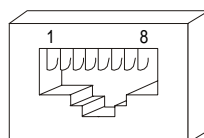

Figure 3. RJ-45 Socket
7. Connect the line cable to the RJ-45 jack (see *Figure 3 and Table 4*).